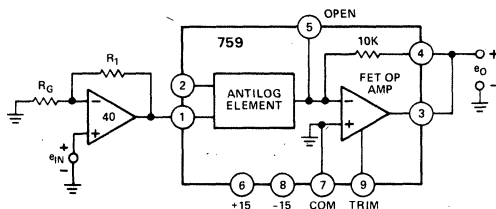

Figure 6. Method for Adjusting $K < 2/3V$
Scale Factor (K) Adjustment – The scale factor may be adjusted for all values of K greater than 2/3V by the techniques described in the log section. If a value of K , less than 2/3V, is desired for a given application, an external op amp would be required as shown in Figure 6. The ratio of the two resistors is approximately: